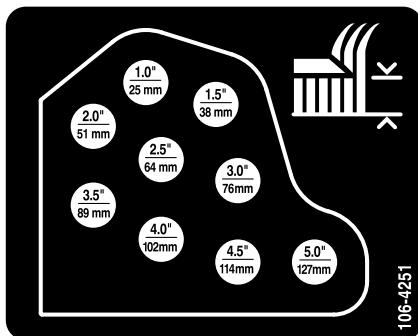

Figure 18
- Mount the height-of-cut chains to the desired height-of-cut hole with the clevis pin and hairpin cotter (Figure 18).